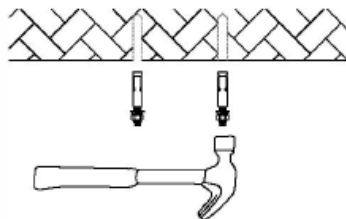

Fig. 2
2. Install expansion shields in holes (Fig. 2).